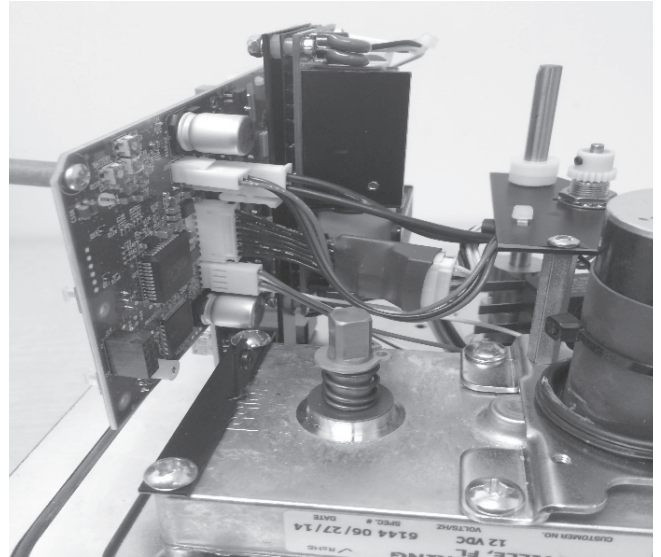

Figure 33.
- 4.35 Connect the potentiometer, thermal overload harness, motor harness, and limit switch harnesses as shown in Figure 33.